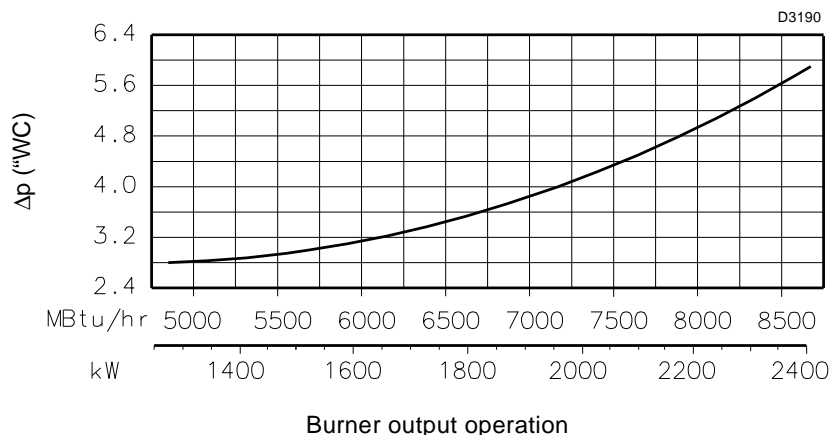
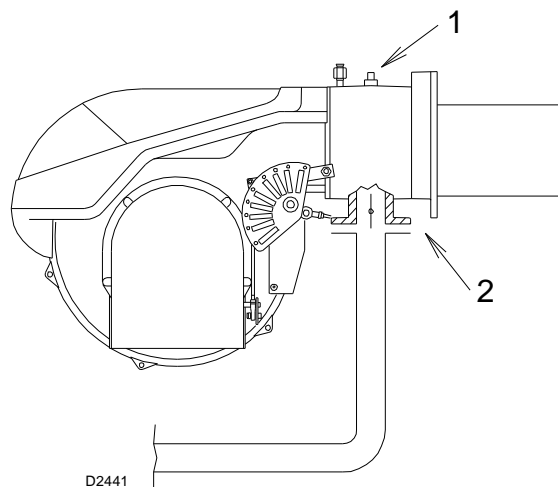

Fig. 21
Fig. 22
The diagram (Fig. 21) shows minimum load losses at combustion head depending on the maximum burner output operation with natural gas (G 20).
Gas pressure is measured at the test point 1)(Fig. 22), with:
- subtract the combustion chamber pressure from the gas pressure measured at test point 1)(Fig. 22);
- find, in the diagram (Fig. 21) the pressure value closest to the result you want;
- Gas pressure at test point 1)(Fig. 22) = 6 "wc
To know the required gas pressure at test point 1)(Fig. 22), set the maximum output required from the burner operation, then:
- read, on the diagram (Fig. 21), the pressure test point 1) (Fig. 22);
- pressure required at pressure test point 1)(Fig. 22).
$\Delta p$  "WC gas butterfly 2)(Fig. 22)